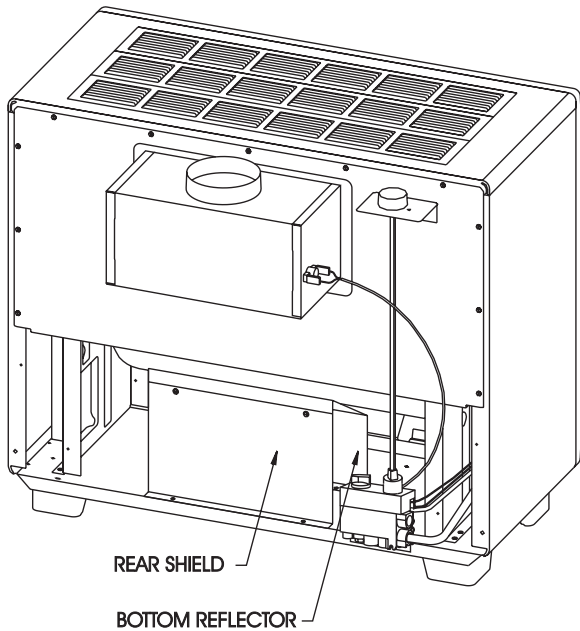

Figure 1
1. Remove rear shield (2 screws) and bottom reflector (4 screws). (See Figure 1)